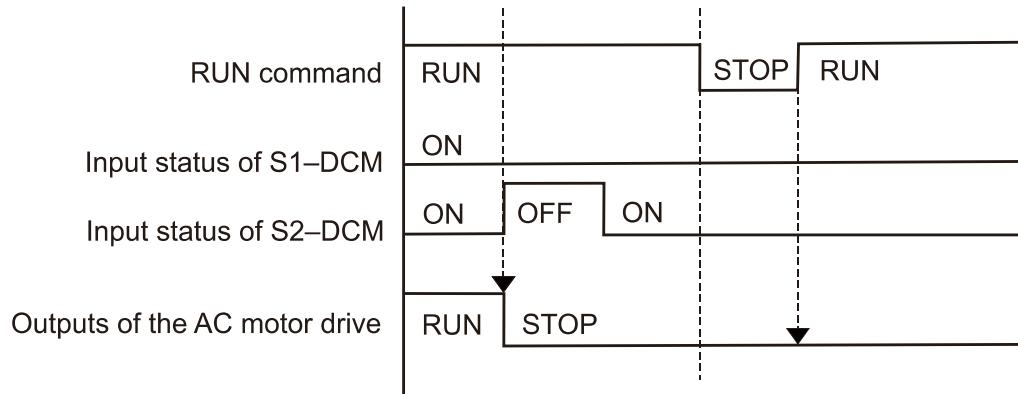

Figure 17-9
As shown in Figure 17-9, when S1–DCM is ON during operation (STO function is not required) and S2–DCM is OFF (STO function is required), the drive stops outputting and the keypad shows the STL2 error. However, you cannot reset the STL2 error even if the S2 status is restored (ON) regardless of the parameter setting. You must cycle the power to reset and to restore the drive to the normal standby state.